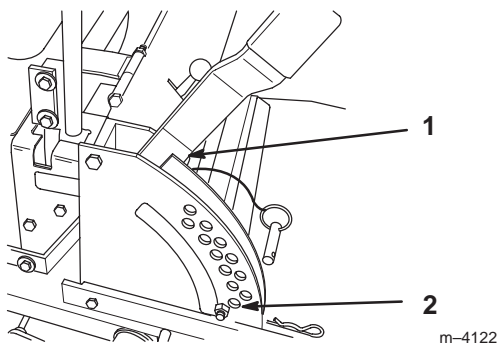
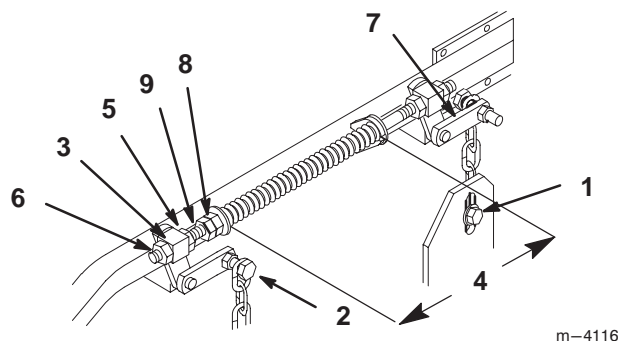

Figure 53
Figure 54
2. Check tire pressure of all four (4) tires. If needed, adjust to 13 psi (90 kPa)
4. Raise the deck to the transport position (Fig. 53). Take force off of the two large deck lift springs by loosening jam nut and front spring nut, in front of each spring, as far as possible (Fig. 54).
5. Place two 1-1/4" (35 mm) thick blocks under rear left and right lower edge of mower. Place one 1-3/8" (44 mm) block under front center lower edge of mower. Not under anti-scalp roller brackets. Lower mower to the 1-1/2" (38 mm) height-of-cut position (Fig. 53).
6. Loosen bottom chain bolt in slot at rear of deck. Repeat for opposite side. (Fig. 54).
7. Loosen front and rear locking nut on either side of front swivel. Loosen until front chains are loose and deck is supported by blocks. Repeat for opposite side. (Fig. 54).
8. When hardware is loosened, remaining tension in the large support springs will tend to rotate the deck lift handle up, out of the 1-1/2" position. Press down on the rear deck support arm to firmly return the deck lift handle to the 1-1/2" position (Fig. 54).
9. While continuing to press down on rear deck support arm, take the slack out of the rear chain and tighten hardware at the bottom (Fig. 54). Downward pressure may now be released. Repeat for opposite side.
14. Raise deck lift lever to the transport position (Fig. 53).
15. Adjust compression springs by turning the front spring nuts so the distance between the two large washers is 10-1/4" (260 mm). Then tighten jam nut (Fig. 54).